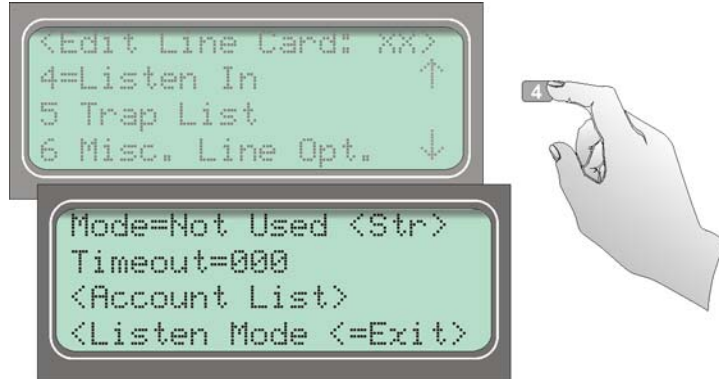

Figure 5-13 Listen Mode Menu Display
3. When the display shows the listen in options menu (see Figure 5-13):